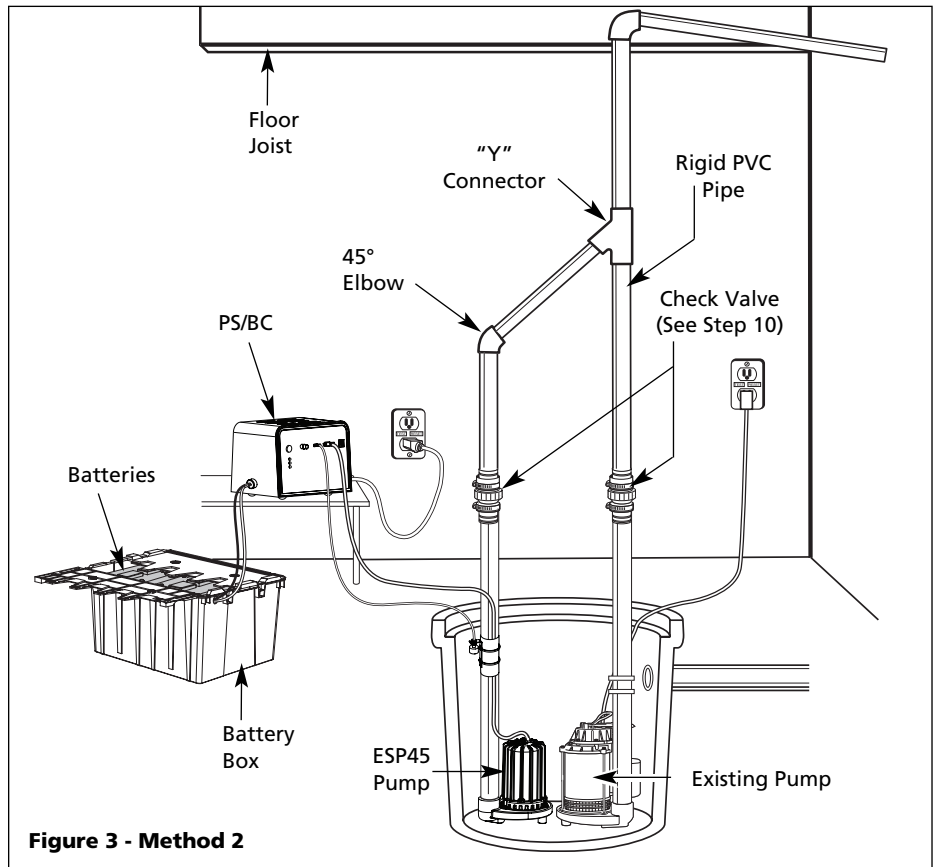

Figure 3 - Method 2
**NOTE:** Check valves can be placed directly in the pump discharge if desired. However, for ease of disassembly, it is recommended that check valves be placed above the sump as shown in Figure 3.